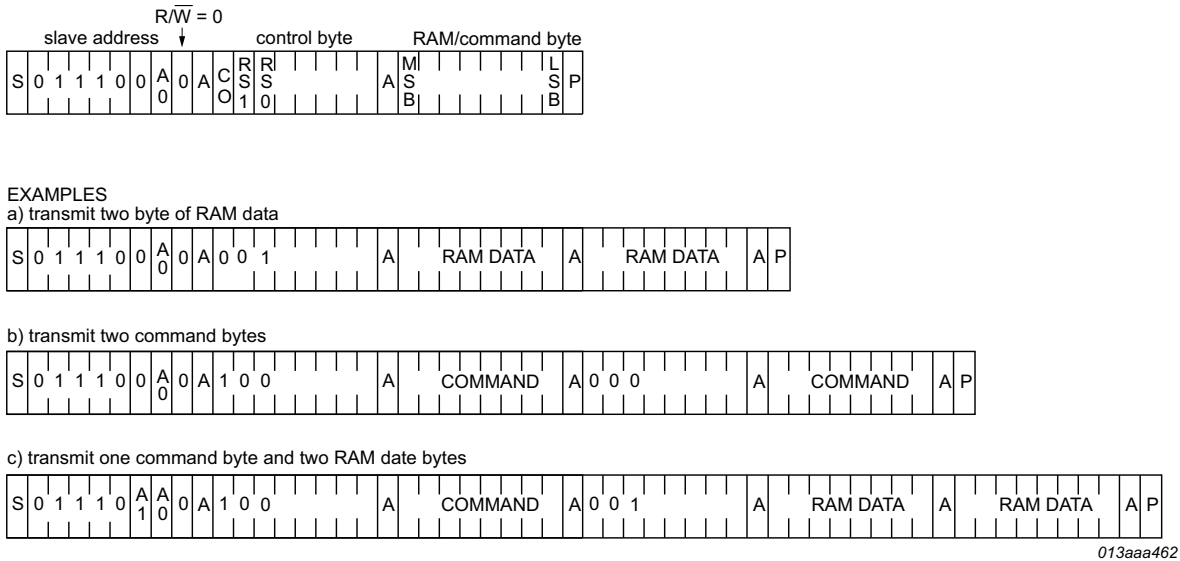

Fig 24. I2C-bus protocol write mode
The I²C-bus protocol is shown in Figure 24. The sequence is initiated with a START condition (S) from the I²C-bus master which is followed by one of the two PCA8546 slave addresses available. All PCA8546 with the corresponding A0 level acknowledge in parallel to the slave address. But any PCA8546 with the alternative A0 level ignore the whole I²C-bus transfer.